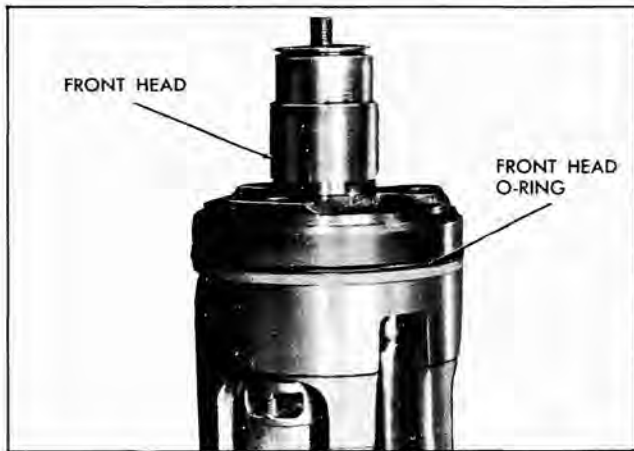

Fig. 5-93 Front Head Casting Installed
6. Examine location of dowel pins and contour of webs (mark dowel location). Rotate so as to position it properly over discharge reed retainers. Use care to avoid damaging teflon gasket surfaces. When in proper alignment, seat on compressor front head casting with light mallet taps (Fig. 5-93).